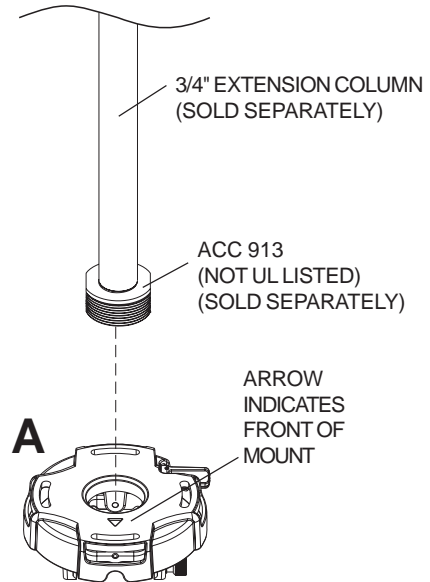
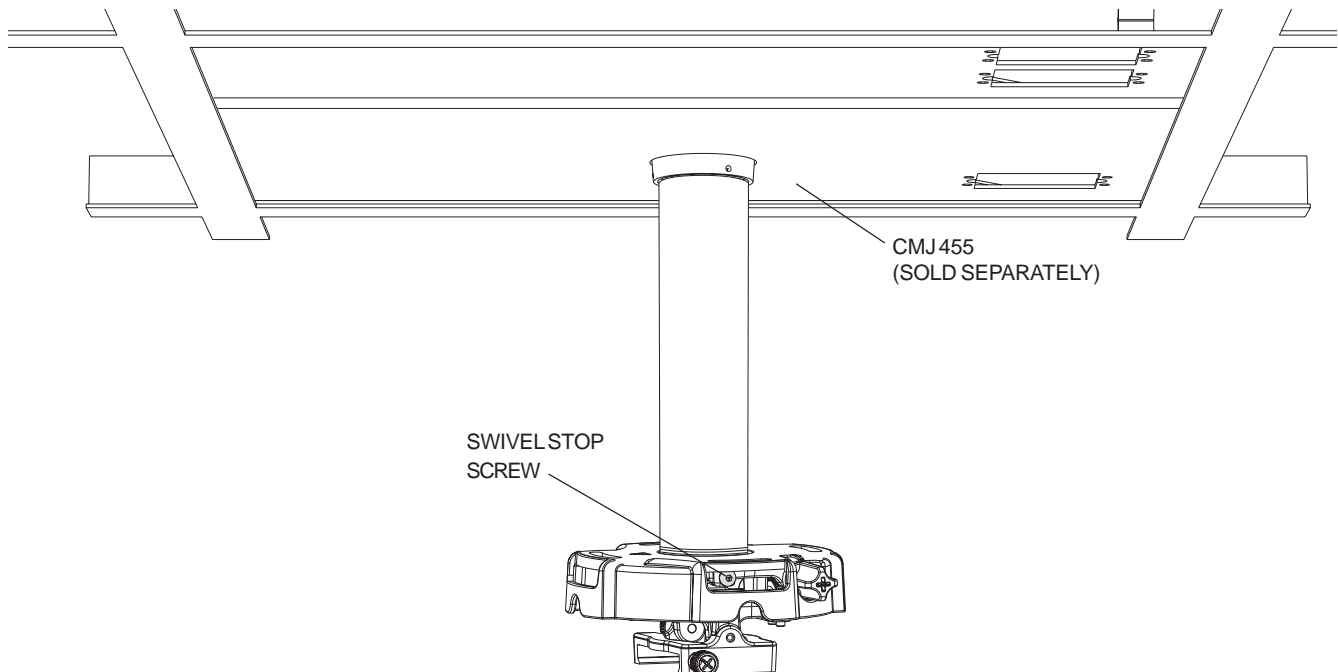

fig. 1.2
fig. 1.3
NOTE: For 3/4" extension columns, reducer **ACC 913** will be required as shown in **figure 1.2**. Tighten swivel stop screw against extension column, flush mount tube or reducer using 4 mm security allen wrench (I) as shown in **figure 1.3**.